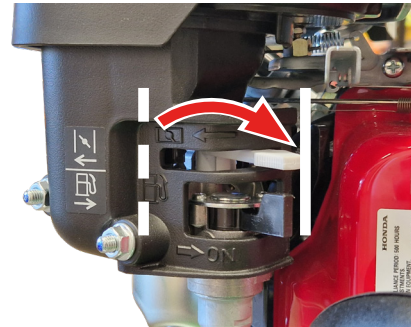

Fig.7H - Move choke lever into open position.
9. Gradually move the choke lever into the *open* position (towards the front) (Fig.7H). Leave to warm up for 3-5 minutes while gradually moving the throttle to the tortoise position.